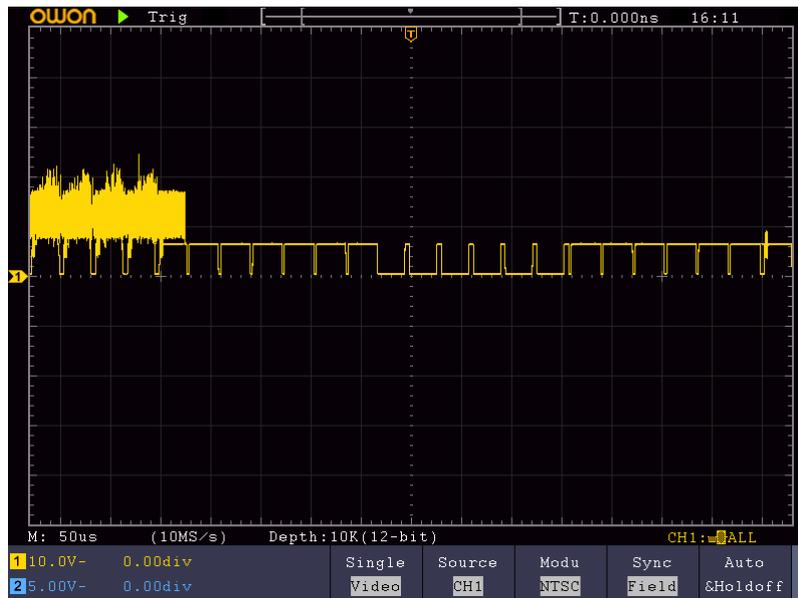

Figure 6-7 Waveform Captured from Video Field Trigger
- (3) In the left menu, select **Video** as the mode.
- (4) Select **Source** in the bottom menu. Select **CH1** in the right menu.
- (5) Select **Modu** in the bottom menu. Select **NTSC** in the right menu.
- (6) Select **Sync** in the bottom menu. Select **Field** in the right menu.
- (7) Turn the **Vertical Scale**, **Vertical Position** and **Horizontal Scale** knobs to obtain a proper waveform display (see *Figure 6-7*).